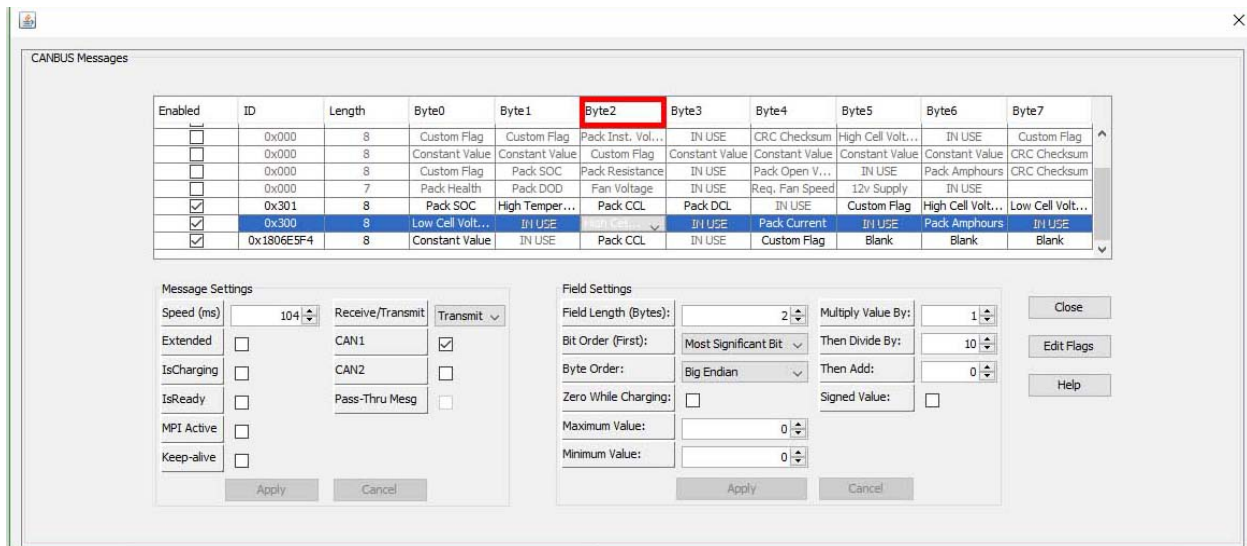
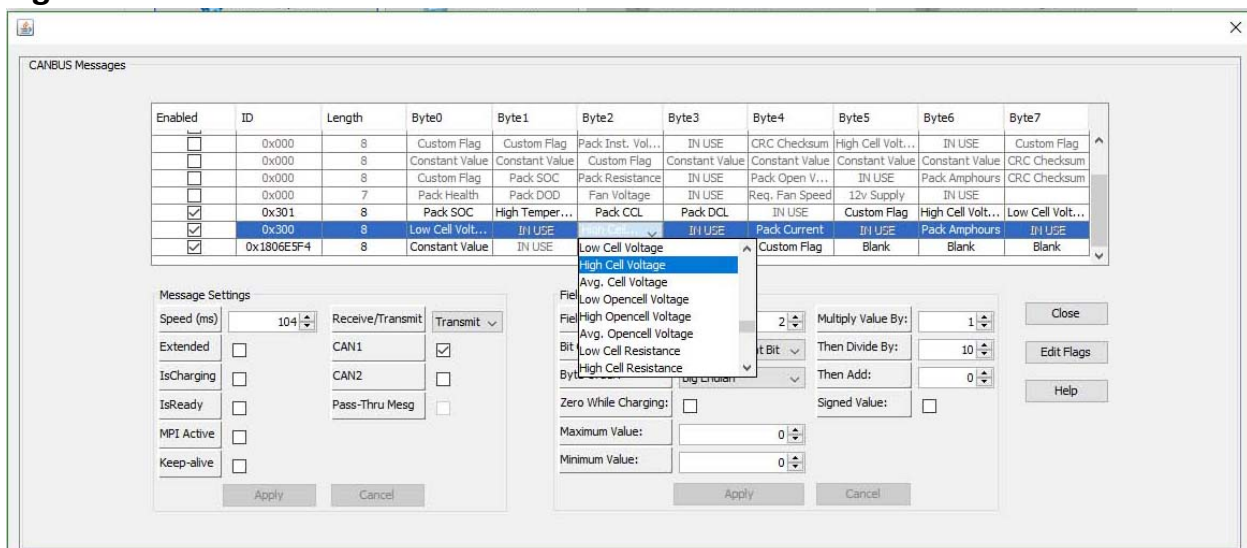

Fig. 9
Fig. 10
- The following is the settings for **High Cell Voltage**. The Bytes used are Byte2 and Byte3 in message 0x300. In the dropdown menu for Byte2 make sure that **High Cell Voltage** is selected. (Fig. 9 Fig. 10)